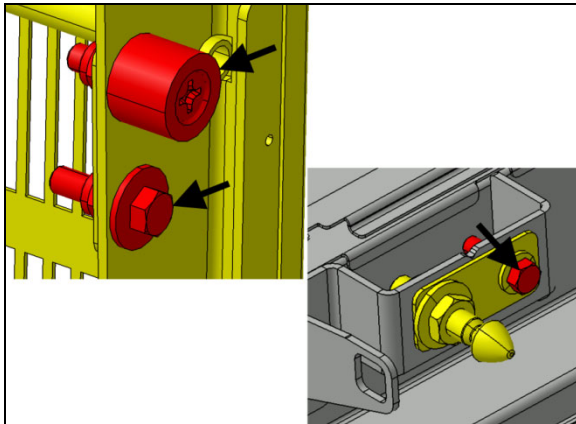

FIGURE 65
13. Open the door and perform a final tightening to the items indicated with arrows (FIGURE 65).